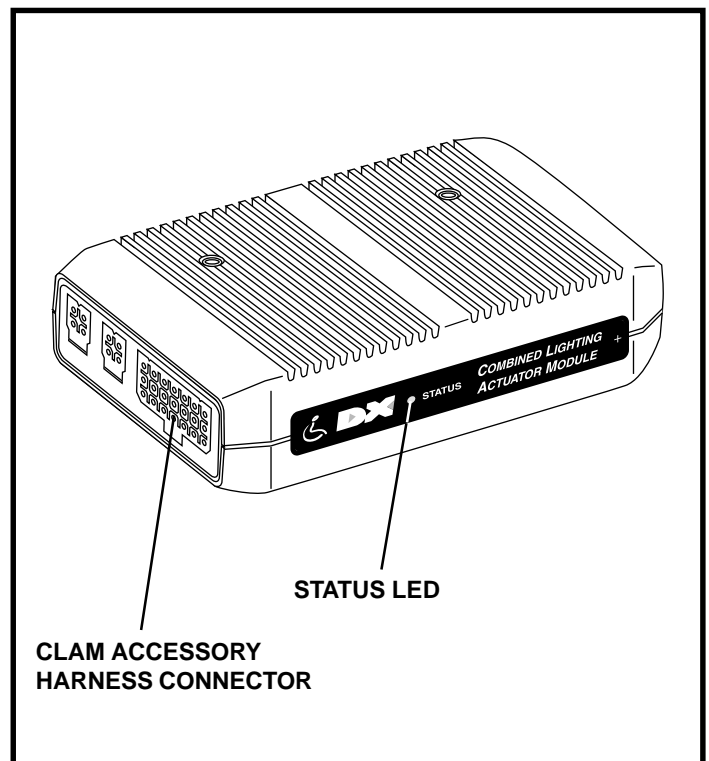

Figure 21. CLAM
1. Check the status LED on the CLAM. **See figure 21.**